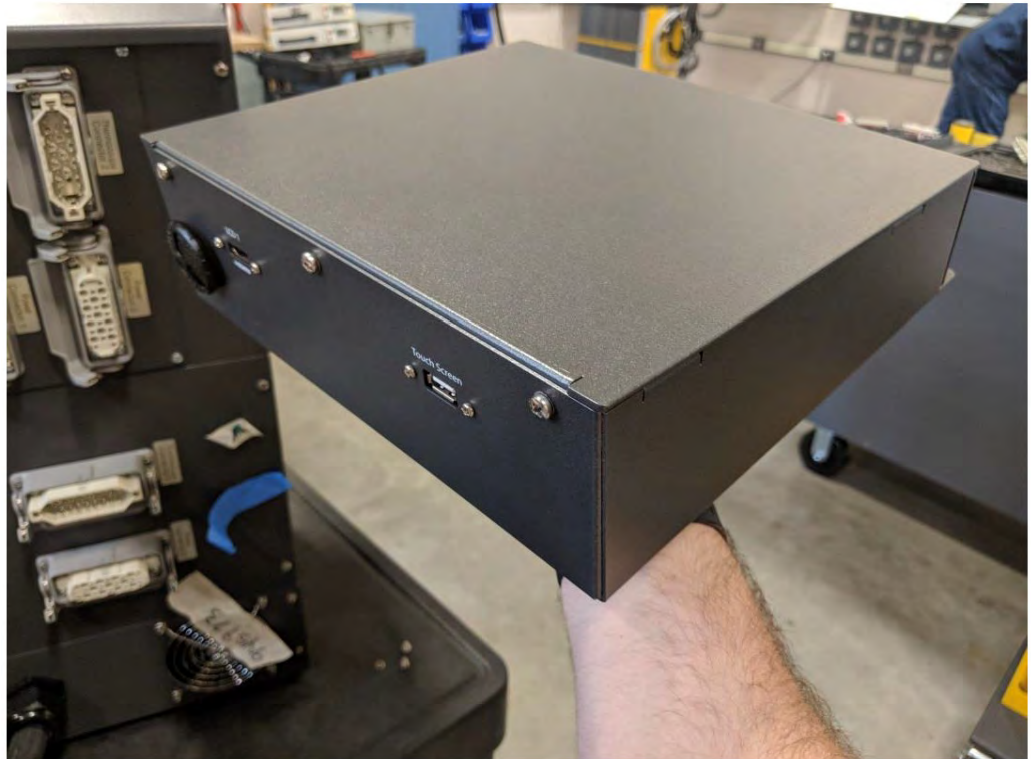

Figure 16-31 Remove the MCU from the Mainframe
8. After the power and communication cables are disconnected, carefully lift the MCU from the mainframe (refer to Figure 16-31).